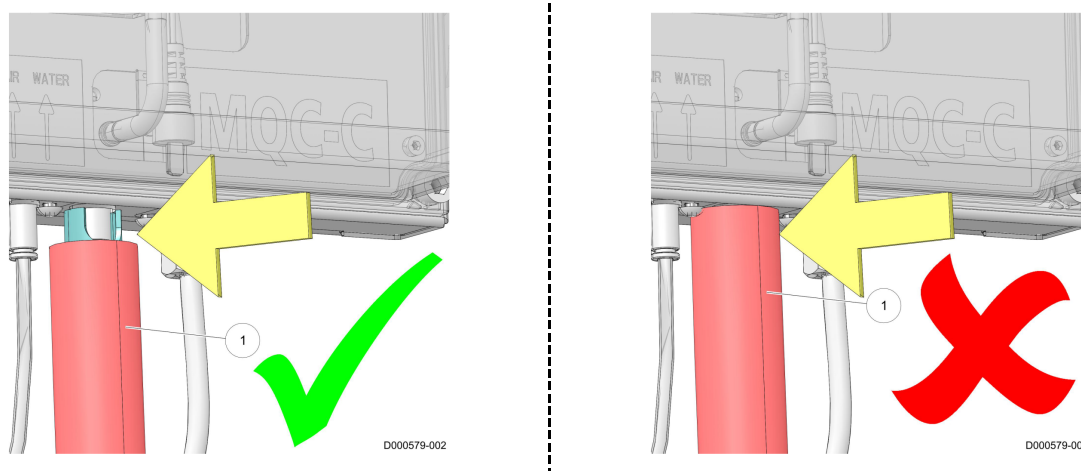

Figure 28. Install the waste tube
5. Install the waste tube on the MQC-C (see figure 28 on page 5-14).